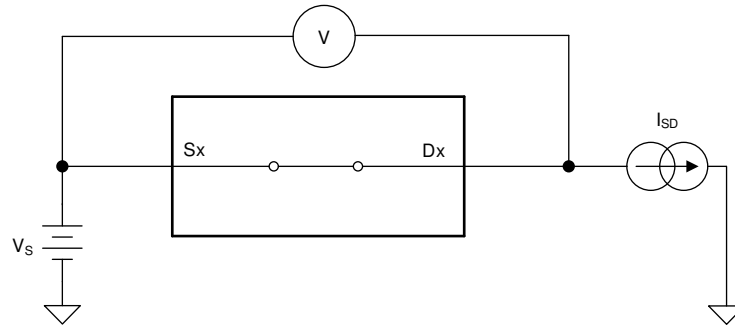

图 27. On-Resistance Measurement Setup
The on-resistance of a device is the ohmic resistance between the source (Sx) and drain (Dx) pins of the device. The on-resistance varies with input voltage and supply voltage. The symbol  $R_{ON}$  is used to denote on-resistance. The measurement setup used to measure  $R_{ON}$  is shown in Figure 27. Voltage (V) and current ( $I_{SD}$ ) are measured using this setup, and  $R_{ON}$  is computed as shown below with  $R_{ON} = V / I_{SD}$ :